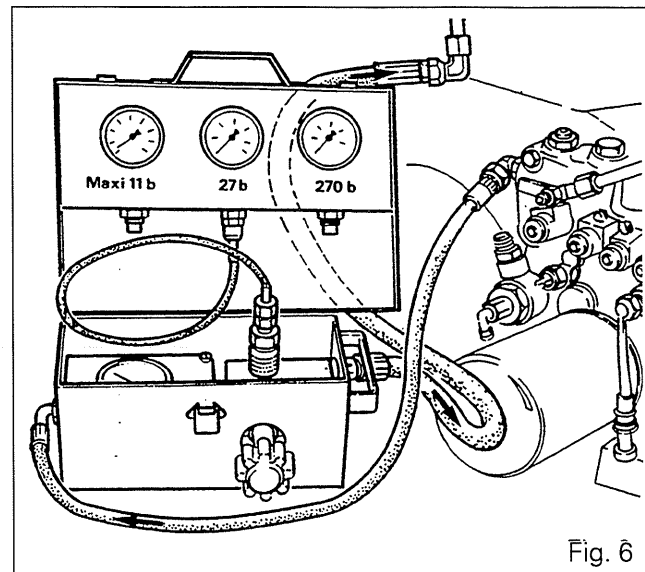

Fig. 6
- Connect the flowmeter in series on the excess flow return (Fig. 6).